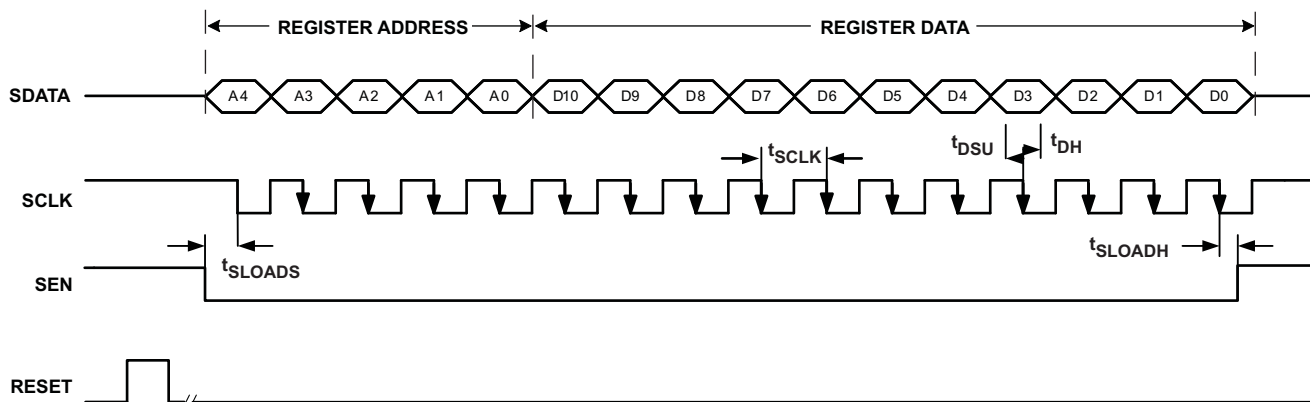

Figure 5. Serial Interface Timing Diagram
1. Either through hardware reset by applying a high-going pulse on RESET pin (of width greater than 10 ns) as shown in Figure 5.